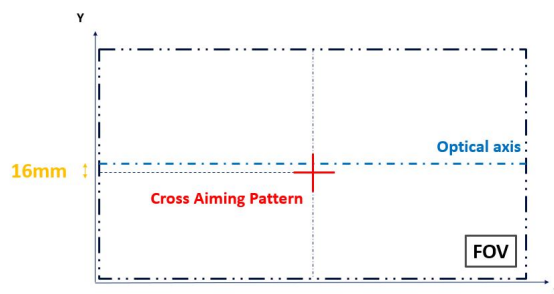

Figure 8 - Cross Laser Pattern
4. Place the **Grade A Barcode Test Chart** in front of the reader at the correct reading distance for your application (see the Global FOV Diagrams, starting on page 124 for reference). **The center of the cross is 16 mm (14 LEDs model) or 30 mm (36 LEDs model) under the optical axis, as shown in Figure 8.**